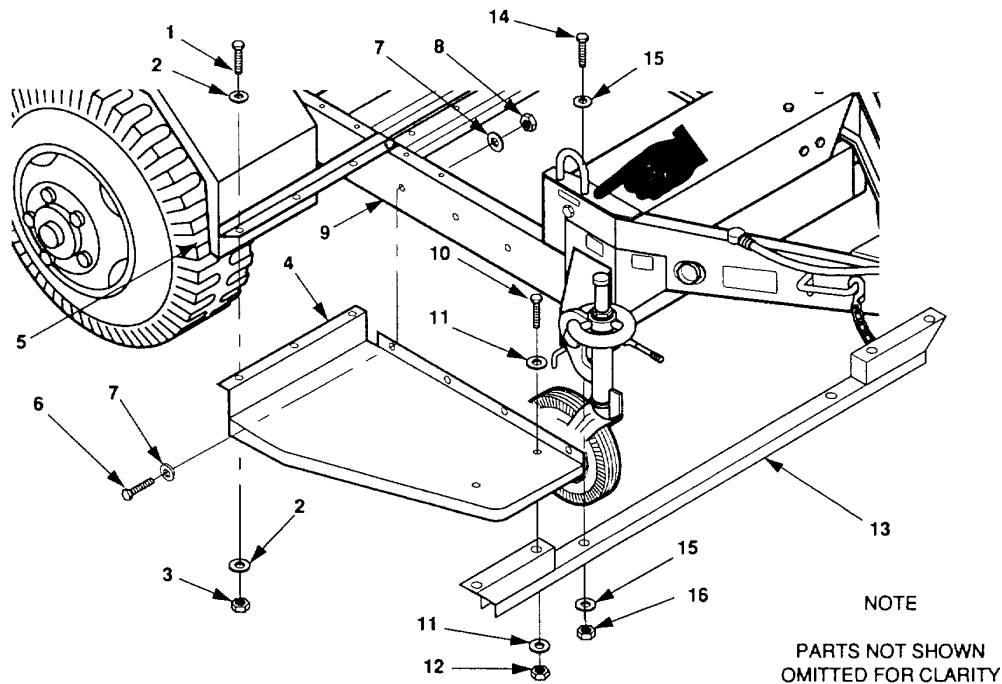

Figure 4-18. Front Step and Support Replacement.
4-29. Front Step and Support Replacement. (See figure 4-18) The roadside and curbside front steps are symmetrical Replacement procedures are the same for both.
- (1) Remove three screws (1, figure 4-18), six flat washers (2) and three nuts (3) attaching front step (4) to fender (5).
- (2) Remove four screws (6), eight flat washers (7) and four nuts (8) attaching front step (4) to trailer frame (9).
- (3) Remove two screws (10), four flat washers (11) and two nuts (12) attaching front step (4) to support (13) and remove front step.
- (4) Remove two screws (14), four flat washers (15) and two nuts (16) attaching support (13) to underside of trailer frame (9) and remove support.